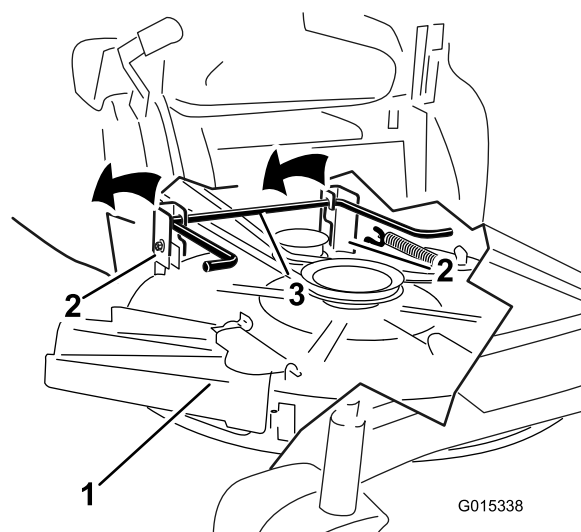

Figure 57
5. Lift the mower deck and hanger brackets clear of the rear lift rod, and lower the mower carefully to the ground (Figure 57).
5. Lift the rear of the mower deck and guide the hanger brackets over the rear lift rod (Figure 57).